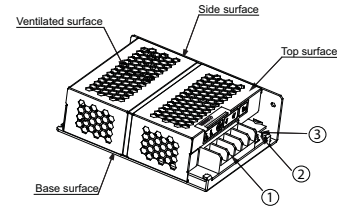

Figure 1 - Device Descriptions
2. Device description (Fig. 1)